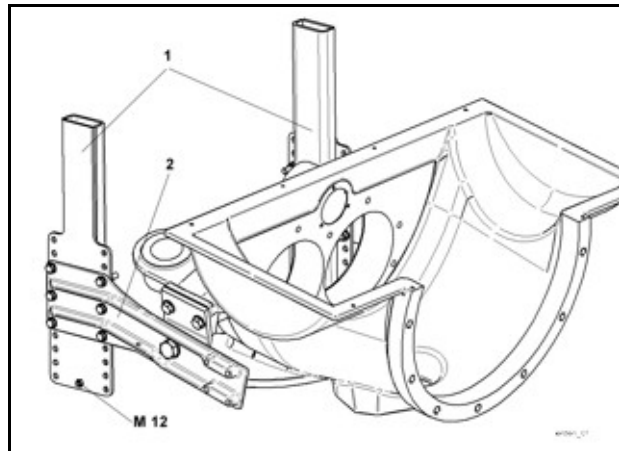

Fig. 63 Rock valve support
A stainless steel screw M12 with nut is pre-installed for the earthing connection on one of the two vertical spars (1) (**Fig. 63**) on the rock valve support (screw inside, nut outside).